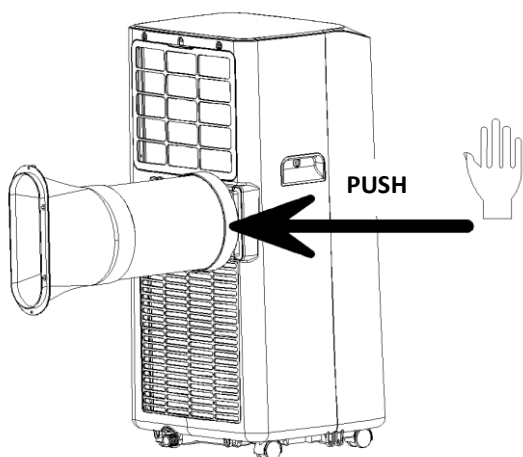

Fig. 1
1.1 Installation of the hot air outlet piping assembly (see Fig. 1):